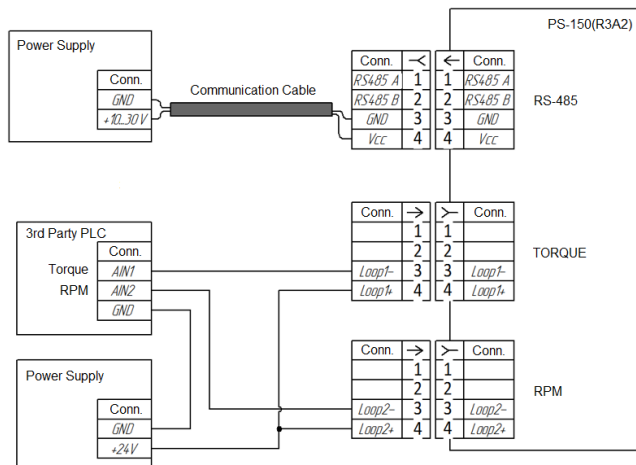

Figure 12. Connection drawing of the PS-150(R3A2) Signal Transducer
The PS-150(RA) has a few configurations suitable for different applications. The PS-150(R3A2) is used for separation plugs for both, ROTARY TORQUE and RPM signals. The PS-150(R2V2) is intended for providing analogue outputs in 1...5 VDC range. The associated connection drawings are shown on Fig. 12, 13, 14.